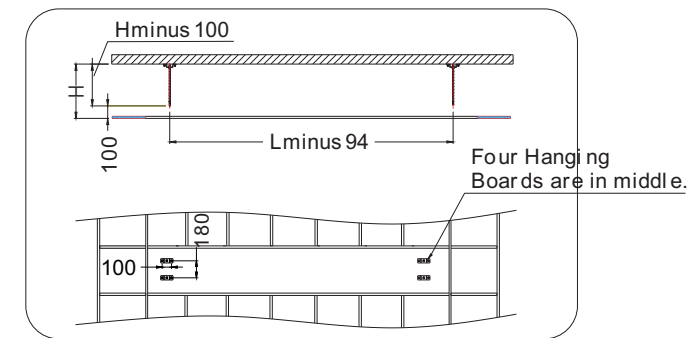
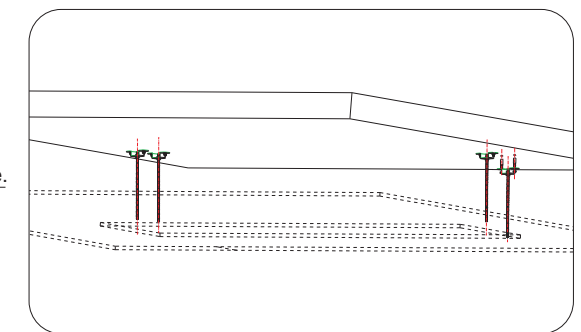

figure 4
figure 5
3. Please measure the security distance between hanging brackets (figure 4), and fix the hanging brackets on the ceiling using expansion screws (figure 5).